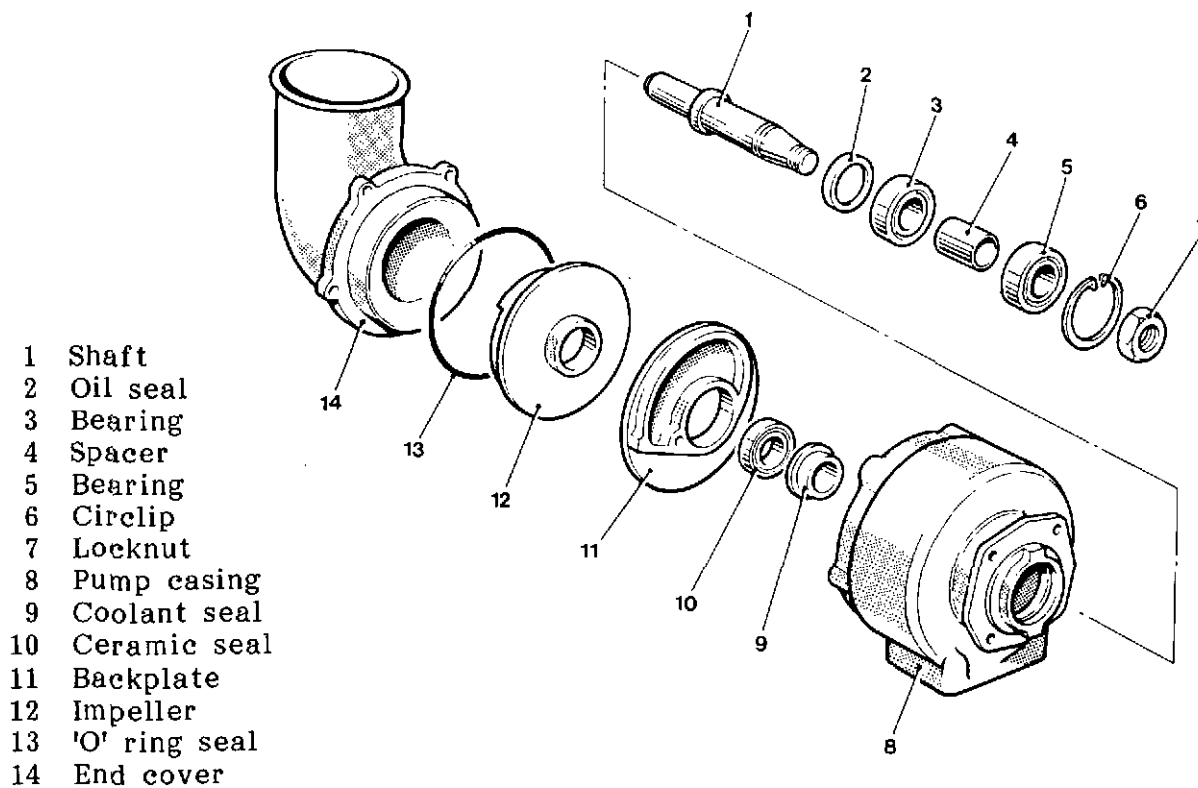

Fig. 3 Coolant pump assembly
- 15 Unscrew the five setbolts securing the pump end cover to the casing; remove the end cover and discard the 'O' ring seal (fig. 3).